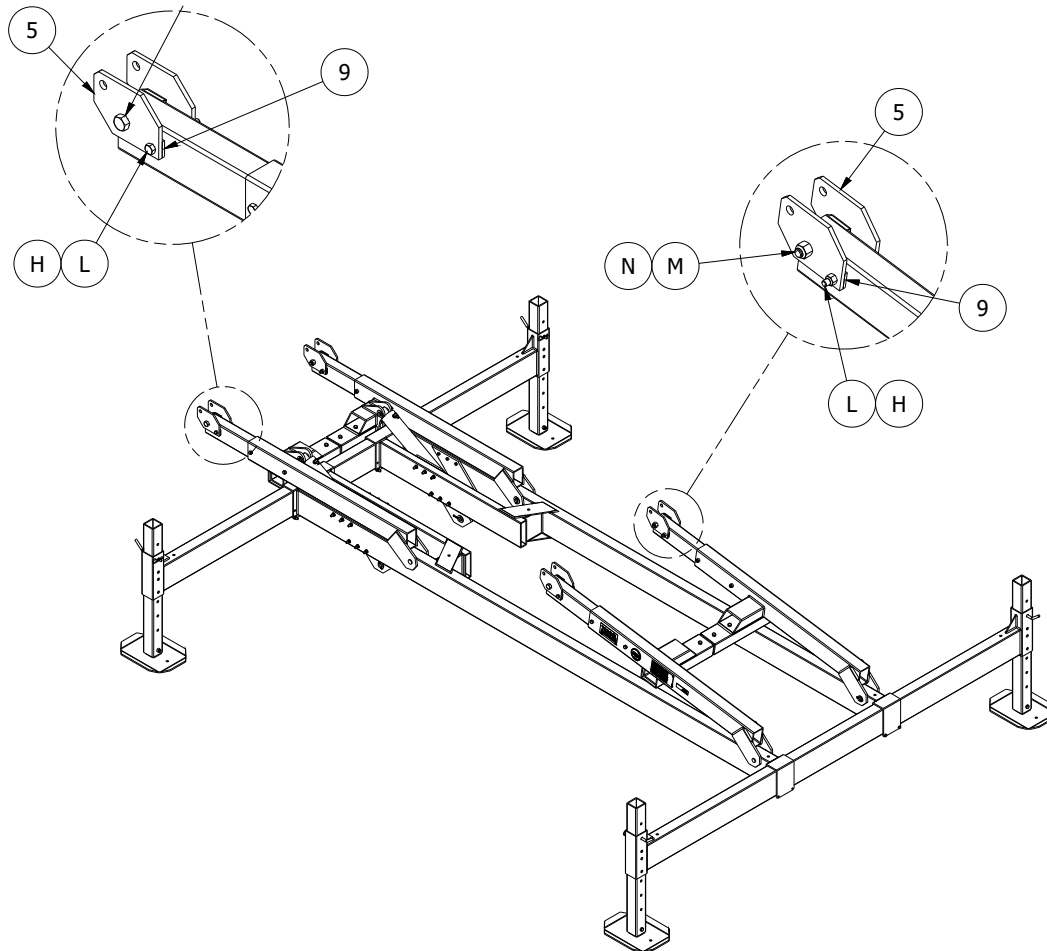

Figure 2-2B.
1. **Refer to Figure 2-2B.** Attach two Liftarm Pivot Plates (5) to each liftarm extension tube using one each; hex screw (M) , locknut (N), hex screw (H) , locknut (L), and two pivot plate spacers (9), one spacer under each plate.